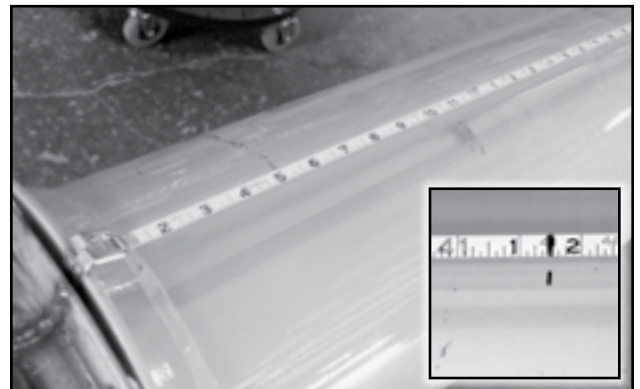

Fig 136 - Mark Measurements
8. Bolt the hopper to the tube. See Figure 136.